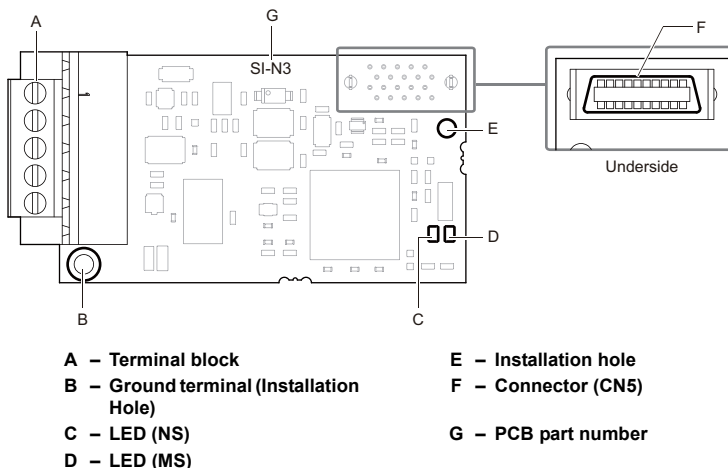

Figure 2 Option Card
- Verify receipt of the correct model by checking the information on the PCB (see Figure 2).